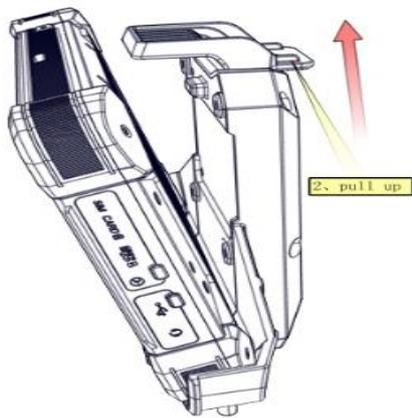

Fig. 4.2
4.1.2 Pull the buckle up as the Fig.4.2 shown.